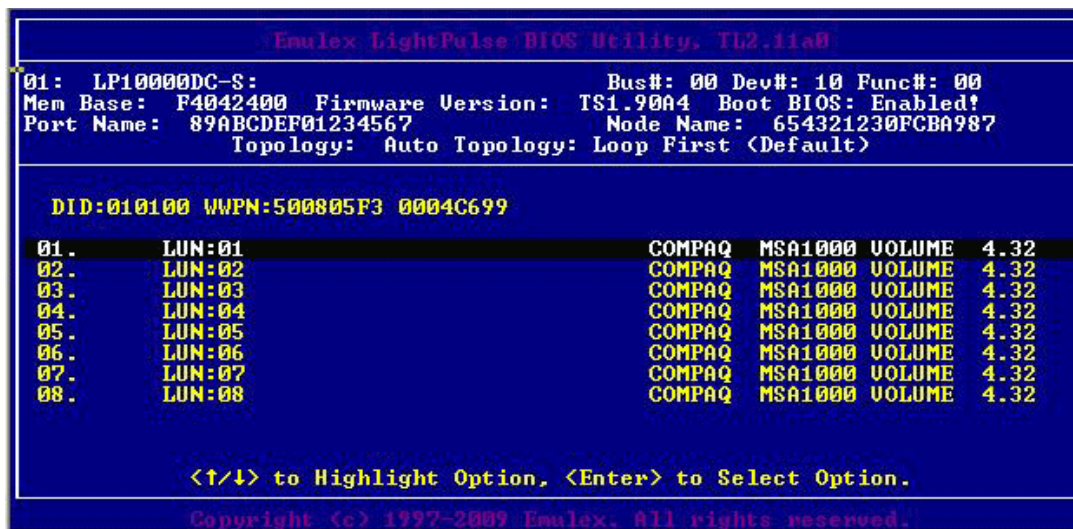

Figure 4-6 LUN listing Screen
- If you select a device, you are asked for the starting LUN. Enter the starting LUN (Figure 4-6). The starting LUN can be any number from 0 to 255.